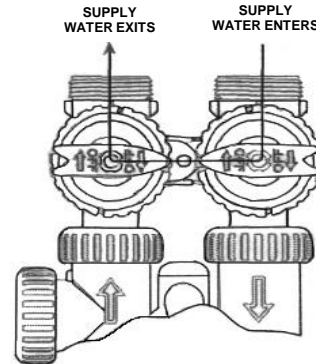

Figure 2
2. **Bypass Position:** The inlet and outlet handles point to the center of the bypass. The system is isolated from the water pressure in the plumbing system. Untreated water is supplied to the building (**Fig. 2**).
- After installation is complete, rotate bypass handles to bypass mode (*see Fig. 2 on page 4*).
1. With the softener in the bypass mode (*Fig. 2 on page 4*) and the control valve in normal operation where the display shows either the time of day, flow rate of treated water or the gallons remaining: Manually add 5" of water to the brine tank.